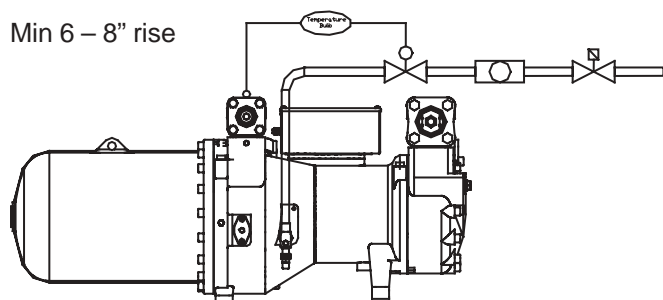

Figure 13
- Until operating conditions are established during temporary operation without economizer and when switching off the compressor, the compressor can discharge a certain amount of oil through the ECO connection. Oil transfer into the sub-cooler must therefore be prevented by a pipe bending vertically upwards with a check valve (see fig.13).